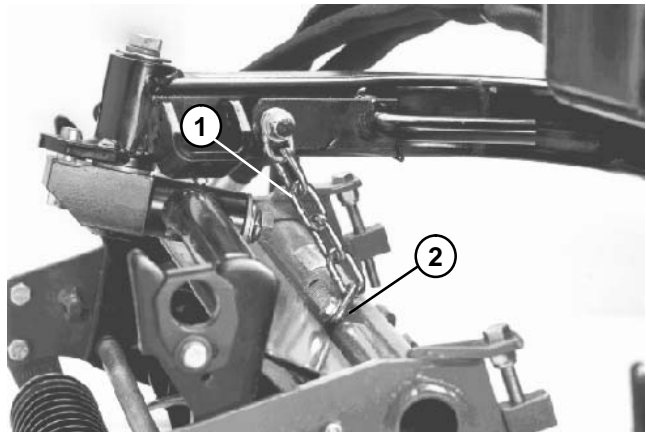

Figure 27
2. Disconnect chain from each rear cutting unit cross tube (Fig. 27).
6. Connect chain to the cross tube on each rear cutting unit (Fig. 27).